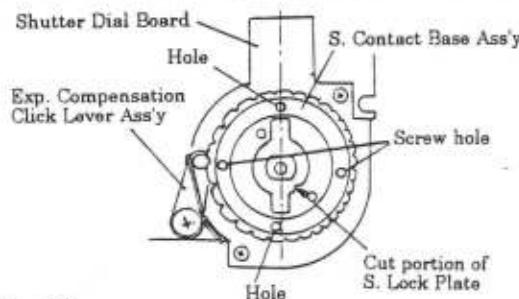

Fig.30
- Take care not to bend the contacts of the S. Contact Base Ass'y. Also wipe the contacts with lens cleaning paper with ether alcohol and install the S. Contact Base Ass'y in the position as shown in Fig. 30.
- Install the S. Lock Plate (1AS23900) with its cut portion positioned as shown in Fig. 30 (with the dull corner side up).
- As shown in Fig. 30, hook the S. Click Spring (1AS24400) to Ⓑ portion of the Dial Base Plate and Ⓒ portion of the Exp. Compensation Click Lever Ass'y (1ASQ2000).